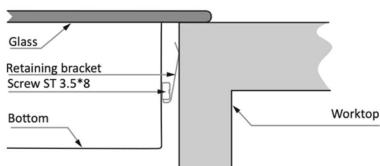

Figure 9.3
6. Put the cooktop into the hole cut into the unit and position it correctly. (Refer to Figure 9.3)